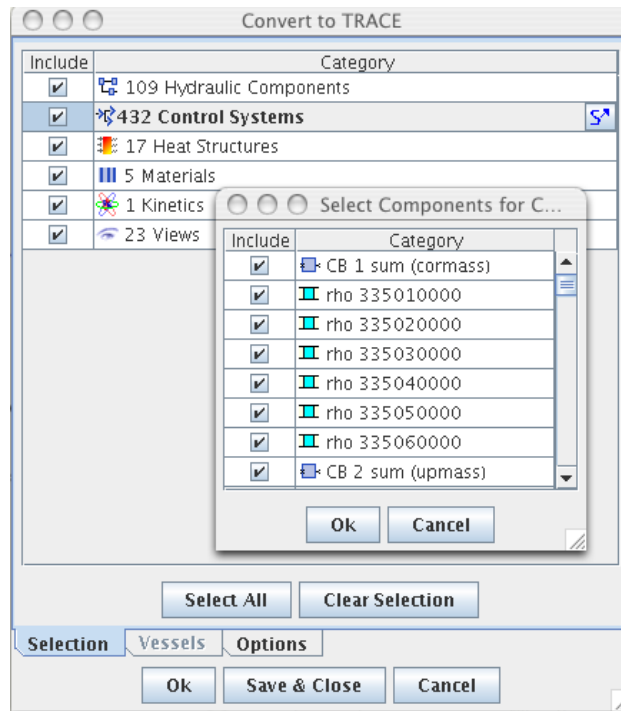

Figure 4: Component Selection
5. Select the Category column for the **Views** and press the **Select** button to open the Component Selection dialog. This dialog allows you to specify exactly which components will be included during the conversion process. The component selection dialog is shown in Figure 4.